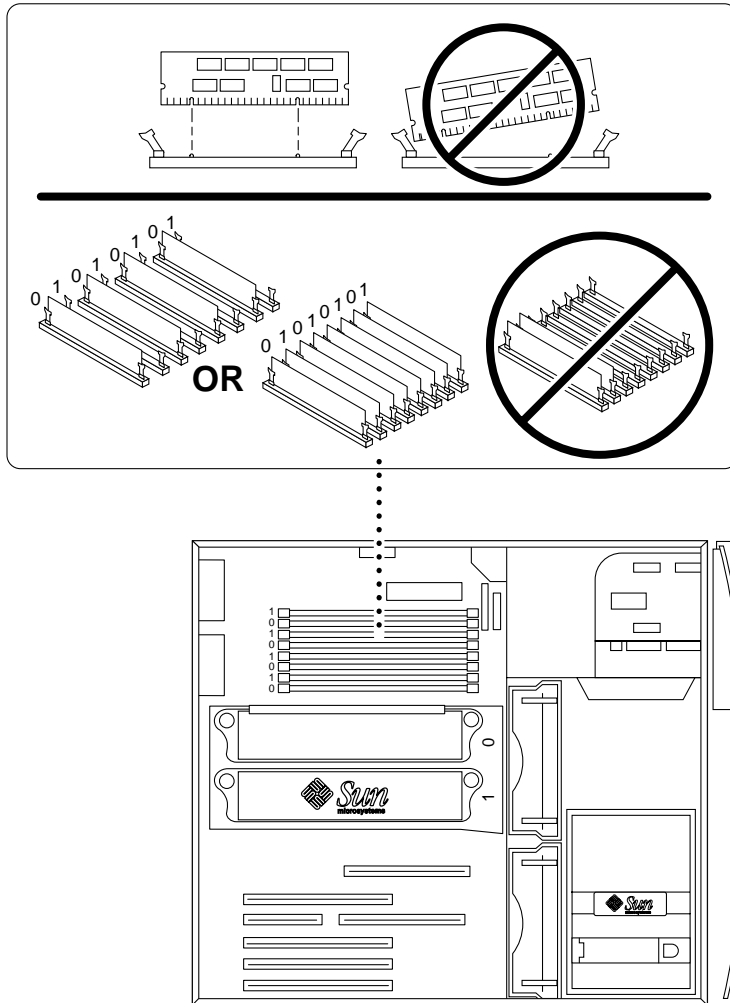

FIGURE 15 Installing Additional DIMMs
3. Install four DIMMs in the empty motherboard DIMM connectors as follows (see FIGURE 15):